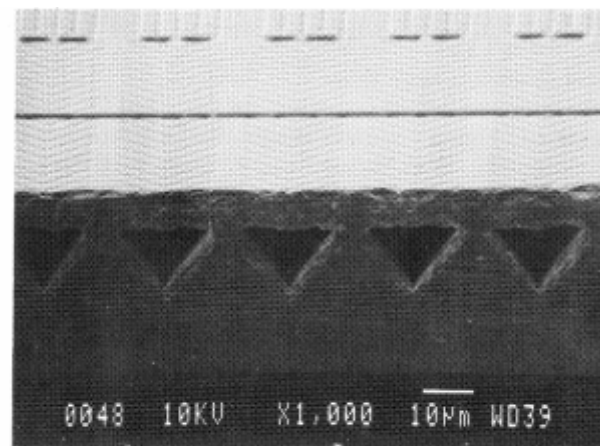

Fig. 4: Close-up of the nozzle array. At the rear of each microchannel is the integrated polysilicon heater.
Figure 4. Structure of the Backshooter microsystem inkjet printhead (not true to scale) **Layers:** (1) Substrate (<110>-silicon); (11) etch stop layer (LPCVD-Si₃N₄); (12) PECVD-SiO₂; (13) BPSG; (14) 1. metal layer (Al); (15) undoped silicate glass (USG); (16) heater layer (HfB₂); (17) 2. metal layer (Al); (18) thermal throttle layer (PECVD-Si₃N₄); (19) galvanic adhesive layers (Ti / Cu); (20) carrier layer (Ni / Au); (21) thermal SiO₂. **Elements:** (a) bond pad (Al); (b) heating element (HfB₂); (c) nozzle; (d) PMOS transistor; (e) NMOS transistor; (f) ink chamber / ink; (g) vapour bubble